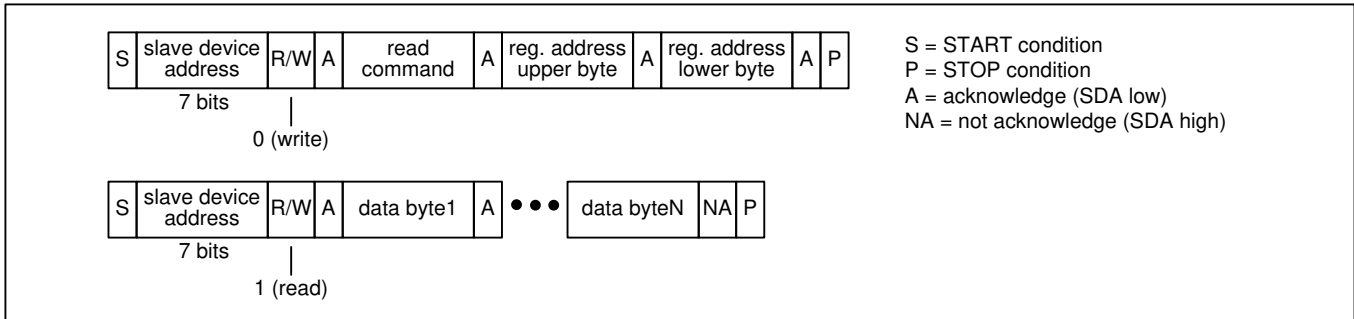
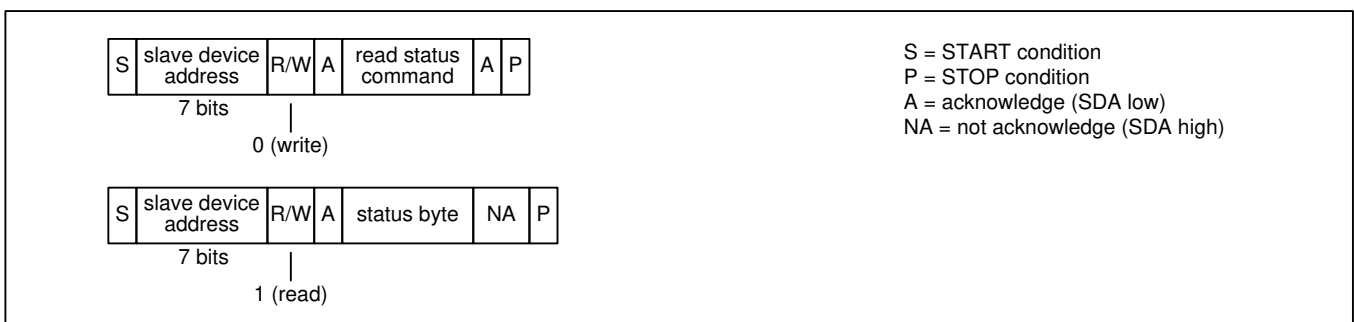

Figure 10 – I²C Read Transaction Functional Timing
Figure 13 – I²C EEPROM Read Status Transaction Functional Timing (ZL30251 Only)
Read Transactions. The device registers are accessible when `EESEL=0`. On a ZL30251 the internal EEPROM memory is accessible when `EESEL=1`. On ZL30250 `EESEL` must be set to 0. The bus master first does an I²C write to the device. In this transaction three bytes are written: the SPI Read command (see Table 3), the upper byte of the register address, and the lower byte of the register address. The bus master then does an I²C read. During each acknowledge (A) bit the device fetches data from the read address and then increments the read address. The device then transmits the data to the bus master during the next 8 SCL cycles. The bus master terminates the read with a not-acknowledge (NA) followed by a STOP condition (P). See Figure 10. Note: If the I²C write is separated in time from the I²C read by other I²C transactions then the device only outputs the data value from the first address and repeats that same data value after each acknowledge (A) generated by the bus master.
EEPROM Read Status (ZL30251 Only). The bus master first does an I²C write to transmit the SPI Read Status command (see Table 3) to the device. The bus master then does an I²C read to get the status byte. In this byte, the least significant bit is set to 1 if the transfer is still in progress and 0 if the transfer has completed. See Figure 13.
Note: In Figure 10 through Figure 13, a STOP condition (P) immediately followed by a START condition (S) can be replaced by a repeated START condition (Sr) as described in the I²C specification.